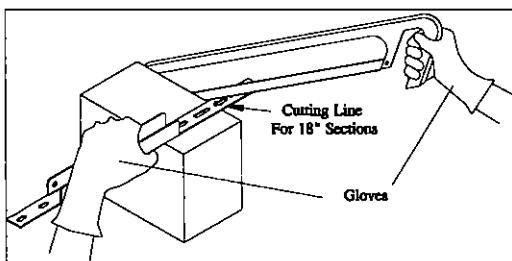

FIGURE 14
Step 1: Narrow Operator Bracket - Amarr offers a narrow operator bracket that will accommodate both 18" and 21" tall top sections. Determine the height of your top section (Table 2) to see if your operator bracket needs modifying. If your top section is 18" tall, the operator bracket must be modified as shown (Figure 14).